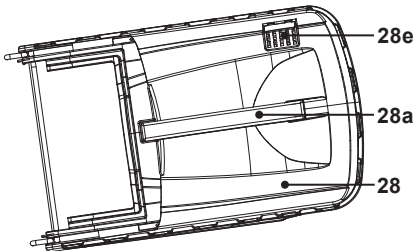

Fig. 17
1. When the hatch (28e) is opened, the grass catcher (28) has sufficient volume left to collect grass (Fig. 17).